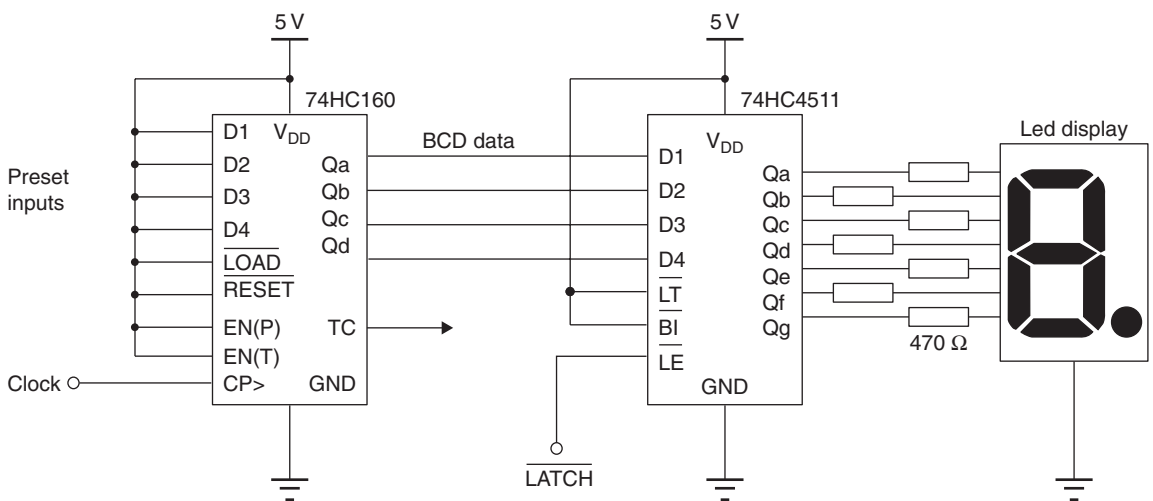

Figure 14.7 BCD counter with display decoder
One of the most useful IC counter circuits is the binary-coded decimal (BCD) counter, illustrated in Figure 14.7 with its outputs driving a seven-segment LED display via a BCD to a seven-segment display driver IC. Input pulses are counted, and the output resets to zero after the ninth count. Therefore, the binary output never exceeds 1001, hence the name binary-coded decimal. On the 10th pulse, when all the outputs reset to zero, the terminal count pin (TC) goes high, which allows stages to be chained together to count numbers higher than 9. If another stage is needed, the TC pin is reset to zero on the first count.